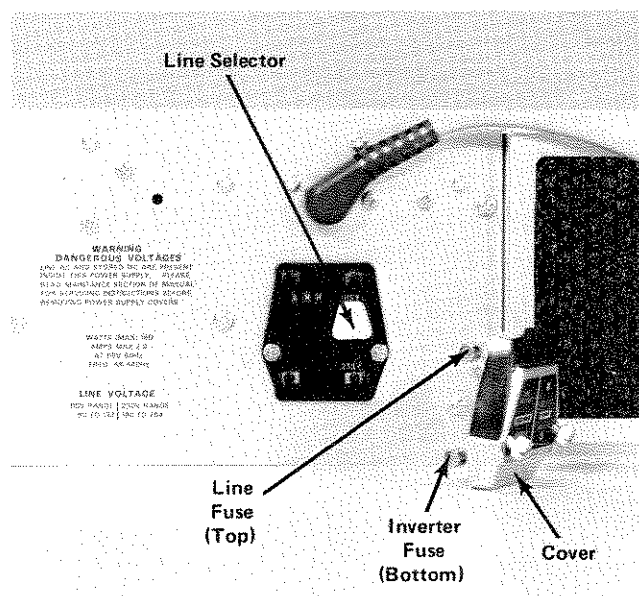

Fig. 1-1. Line selector assembly on rear panel (shown with cover removed).
3. To convert from 115-volts to 230-volts nominal line voltage, or vice versa, pull out the Selector switch bar (see Fig. 1-1) and plug it back into the remaining holes. Change the line-cord power plug to match the power source receptacle or use a 115- or 230-volt adapter.